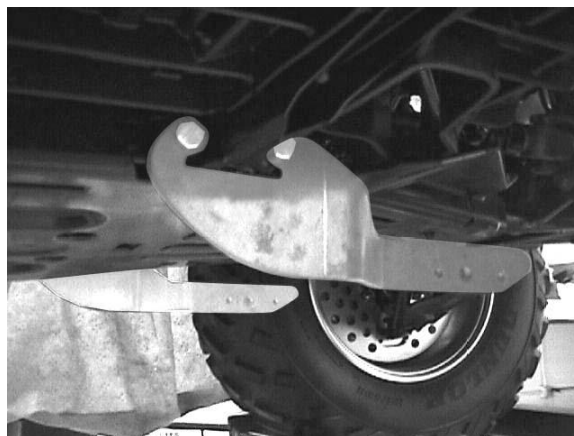

Figure 1
2. Take both mounting plates from the kit, place them over the holes. Attach the mounting plates to the bike using four 8mm x 20mm bolts, 5/16" flat washers, and 5/16" lock washers as shown in Figure 1.
14. ***Now go back and tighten all four bolts on the mounting brackets as shown in Figure 1.***